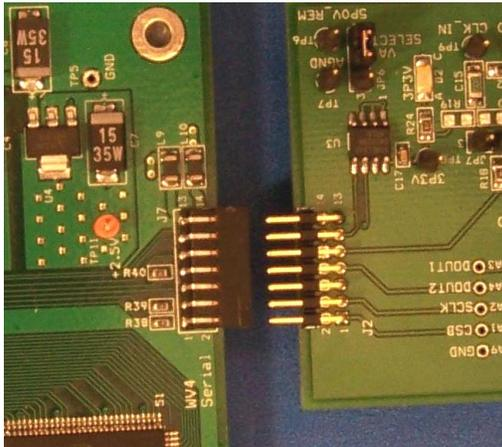
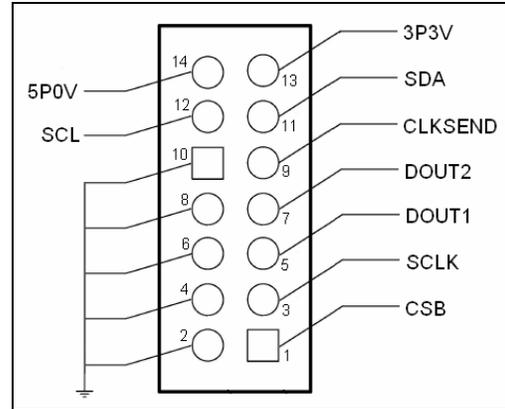

Figure 4: WV4 to ADC122S706 Connection
Figure 5: J2 (WV4S) Header Pin Out
7. Apply the signals to control the SPI interface at J2 or VIA1 to VIA4. See the evaluation board schematic (Figure 10) or the J2 header pin out (Figure 5) for more details.
3. Connect the J2 header on the ADC122S706 evaluation board to the J7 WV4 serial connector on the WV4 board. Refer to Figure 4 for the serial connection and Figure 5 for the J2 header pin out.